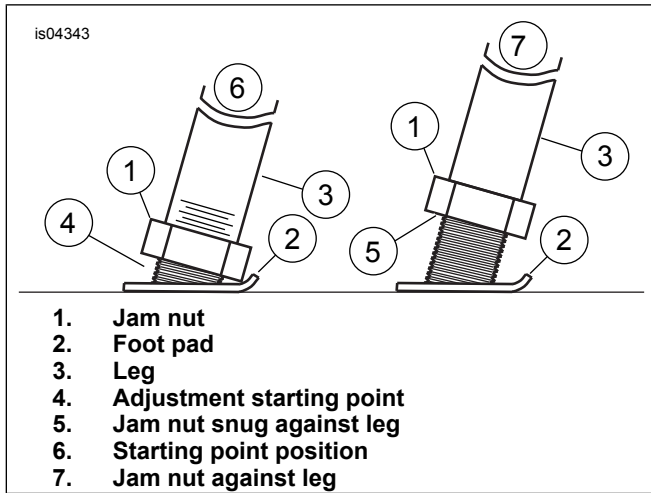
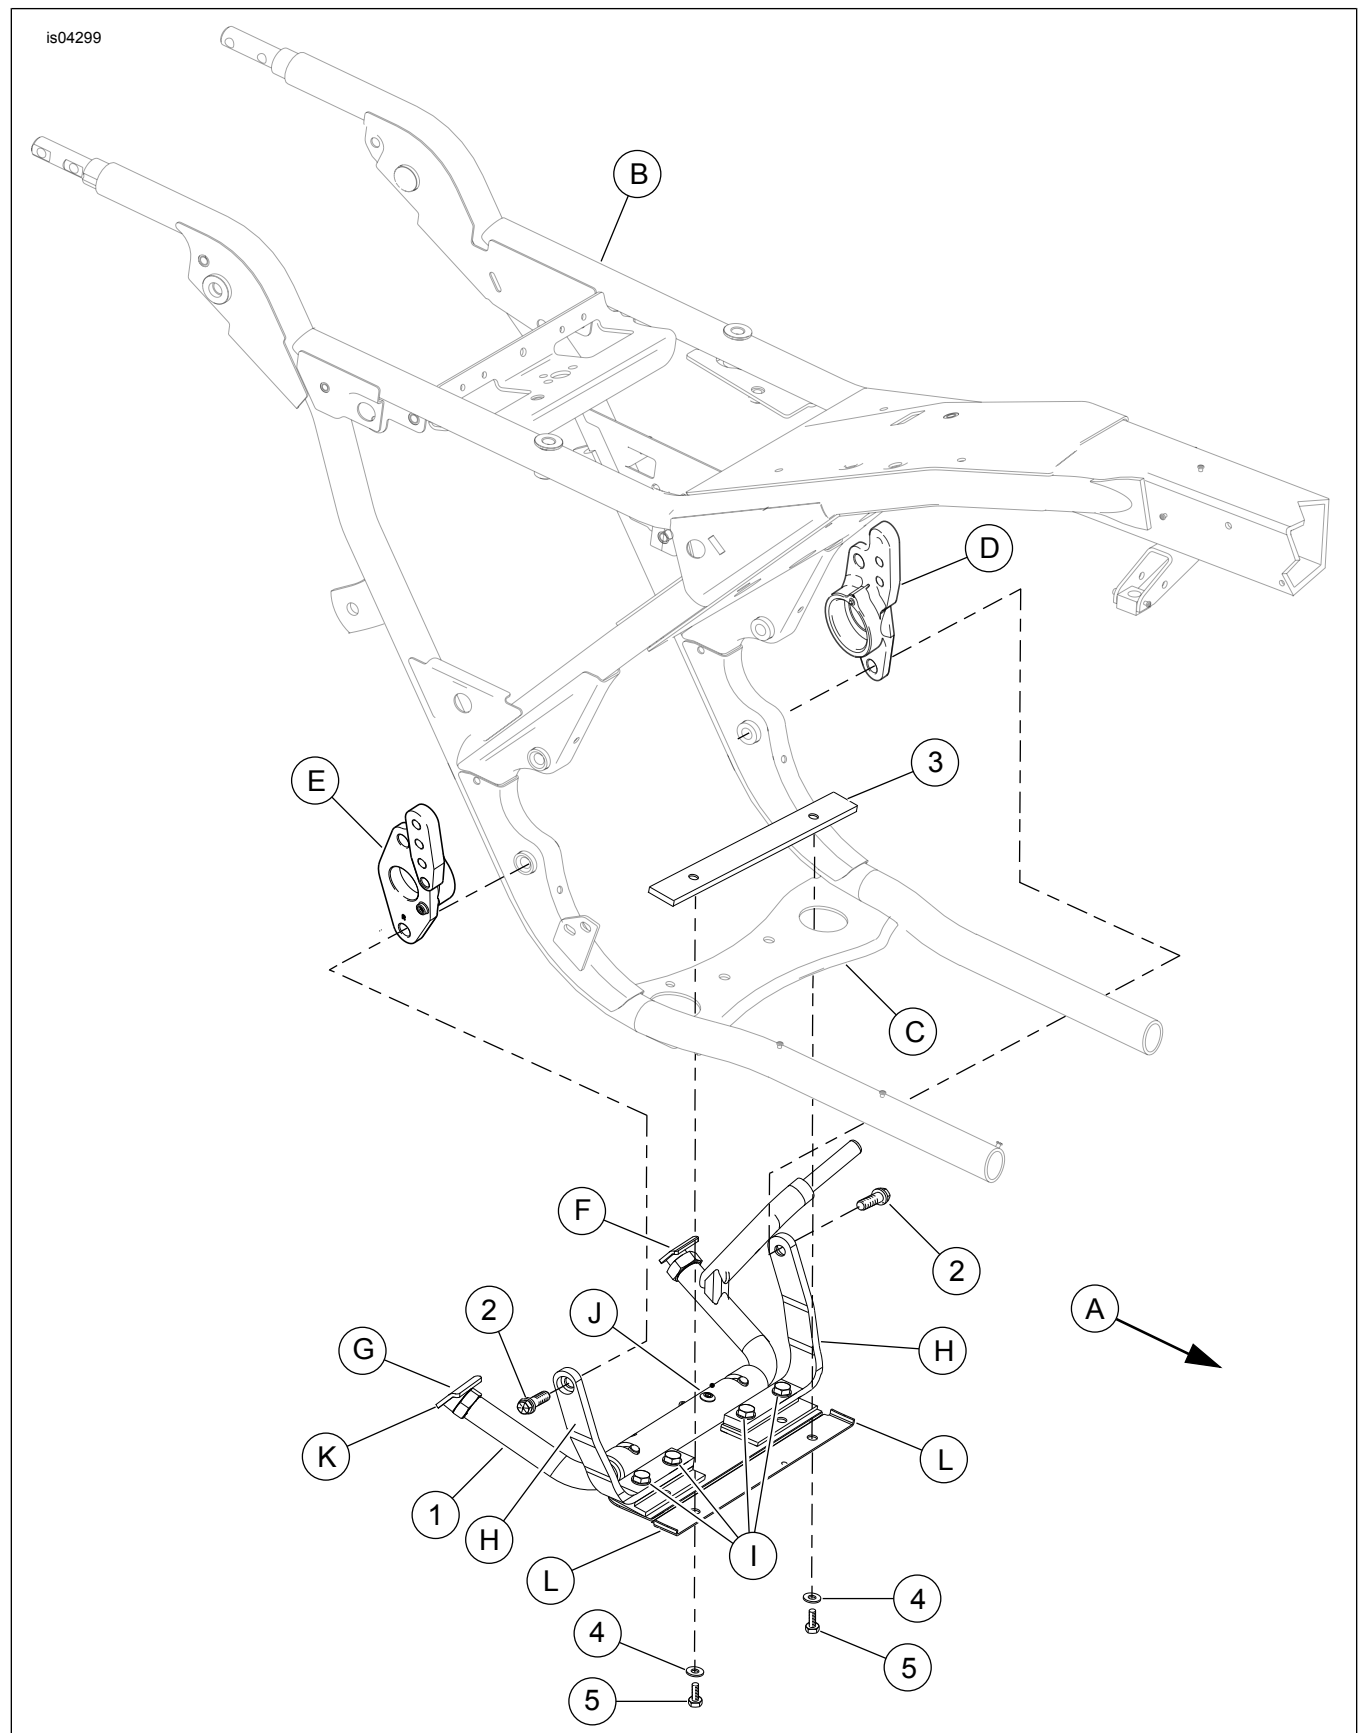

Figure 4. Display Stand Adjustments
Figure 7. Service Parts: Chrome Display Stand Kit
3. See Figure 7. Position the display stand (1) around the bottom of motorcycle frame (B) with the vertical arms (H) in line with the lower swingarm bolt holes. From the kit, install the 7/16-14 x 1-1/4 inch swingarm bolts (2) into the lower left (D) and right (E) swingarm bracket locations but do not tighten completely.
4. Swing front of display stand up to the frame support bracket (C).
5. Place plate (3) on top of frame support bracket (C) directly in line with the display stand mounting holes.
6. Insert two 1/4-20 x 7/8 inch long hex head bolts with washers (4) through display stand mounting hole, frame support bracket (C) and into plate (3). Tighten one side until bolt head and washer starts to compress plate. Move to the other side and tighten until bolt head and washer starts to compress plate. Repeat this process with both bolts to bring the display stand mounting hole areas up against the bottom of the frame support bracket (C). At this time, display stand ends (L) will be up against the bottom of the frame (B).
2. See Figure 4. For initial adjustment, loosen both jam nuts (1) and turn jam nuts up against foot pad (2).
3. Spin both foot pads with jam nuts all the way into legs (3). See Figure 7. Spin both feet with jam nuts back out until flat (K) faces down. Do not tighten jam nut at this time. See Figure 4. This is the starting point position (6) for all models.
- Tire on ground: See Figure 4. Use starting point position (6).
- Tire off ground: From starting point position (6), rotate foot pad (2) out 7 turns.
- Tire on ground: See Figure 4. From starting point position (6), rotate foot pad (2) out 9 turns.
- Tire off ground: From starting position (6), rotate foot pad (2) out 17 turns.